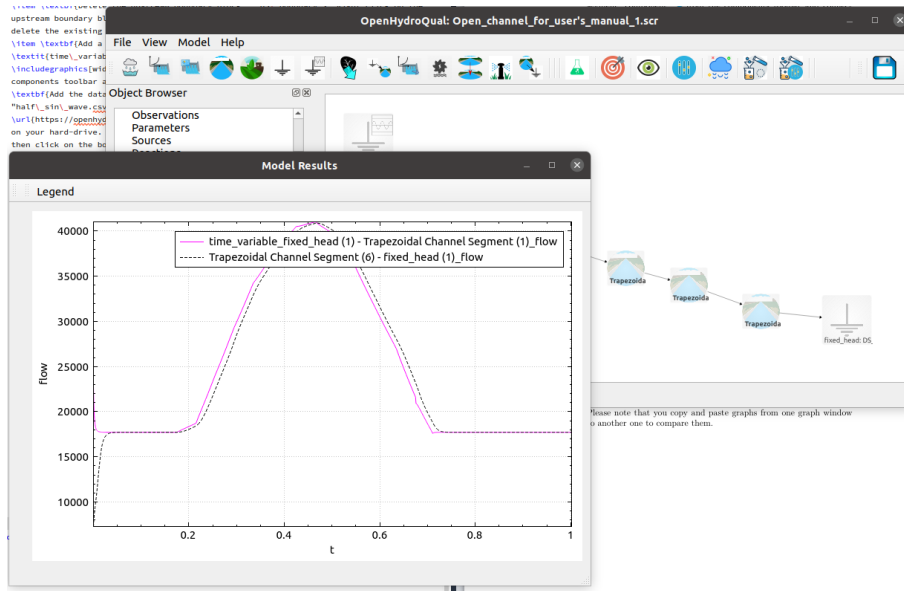

Figure 7: Screenshot of flow rate at upstream and downstream of the channel for the case with a channel length of 1200 m
3. **Connect the upstream boundary to the upstream channel block:** Use the "Link from a fixed head boundary to a channel segment" component  from the components toolbar and connect the *US_boundary* block to *Trapezoidal Channel Segment (1)*.
6. **Note:** Please note that the total channel length is too small compared to the wave speed and that is why the delay in arrival of the wave to downstream is not fully noticeable. Try increasing the length of each channel segment to 200m to see how that affects the wave behaviour. Please note that you copy and paste graphs from one graph window to another one to compare them (figure 7).